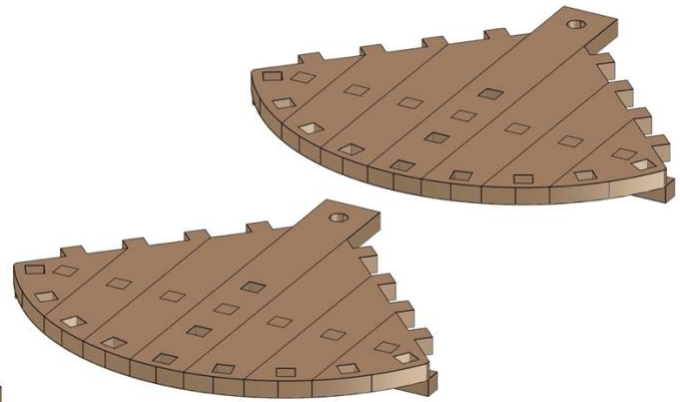

Fig. 36
- *Fig. 36* shows the completed process (make two parts).